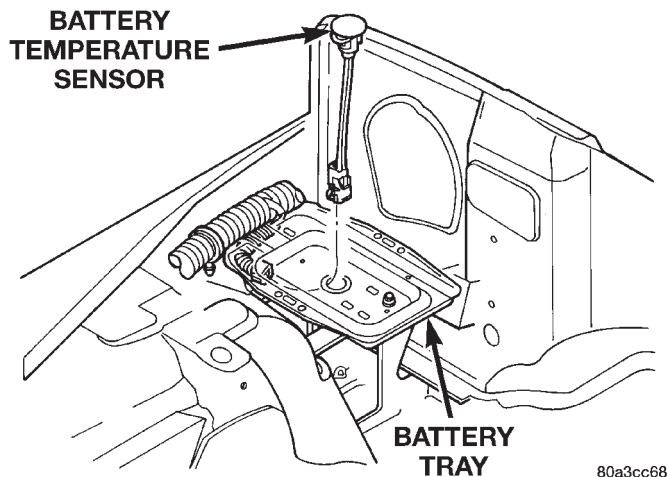

Fig. 1 Battery Temperature Sensor Location
(1) The sensor is located under the battery and is attached to the battery tray (Fig. 1). A two-wire pigtail harness is attached directly to the sensor. The opposite end of this harness connects the sensor to the engine wiring harness.
(2) Disconnect the two-wire pigtail harness from the engine harness.
(3) Attach ohmmeter leads to the wire terminals of the pigtail harness.